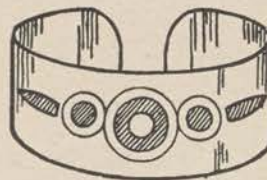

Figure 106.
(2) Finally, metal may be decorated by etching it with various acids (fig. 106). As this method re-